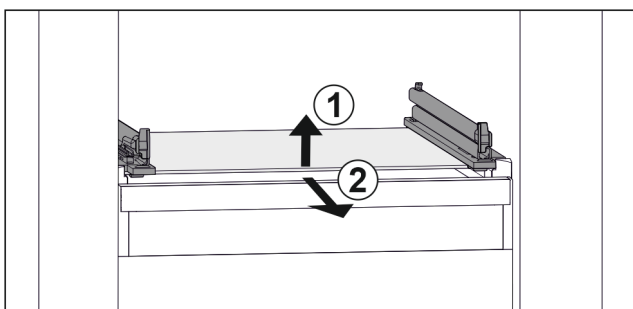

Fig. 116 Example illustration of glass shelf
- ▶ Lift glass shelf at the front. Fig. 116 (1)
- ▶ Take out glass shelf to the front. Fig. 116 (2)